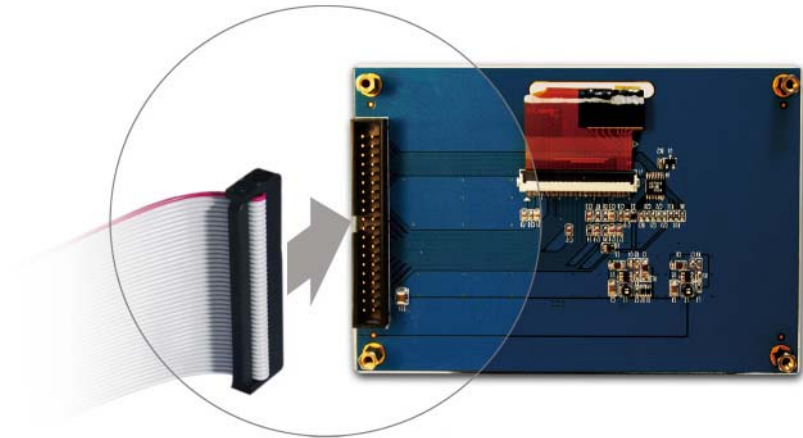

Figure 1.2 Connect the IDE cable to the TRDB_LTM board
1. Connect the IDE cable to the back of the LTM board, as shown in Figure 1.2